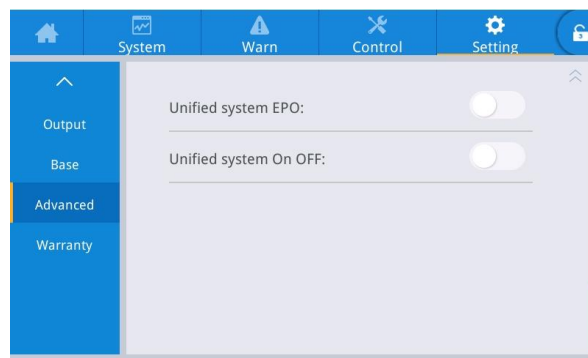

Fig.5-9 Unified System On/Off setting interface
5. Unified system on/off is enabled. If you need to set the parallel power on/off of the parallel system, you can set the [Unified System On/Off] option in the advanced parameter settings of the setting interface, as shown in Figure 5-9.